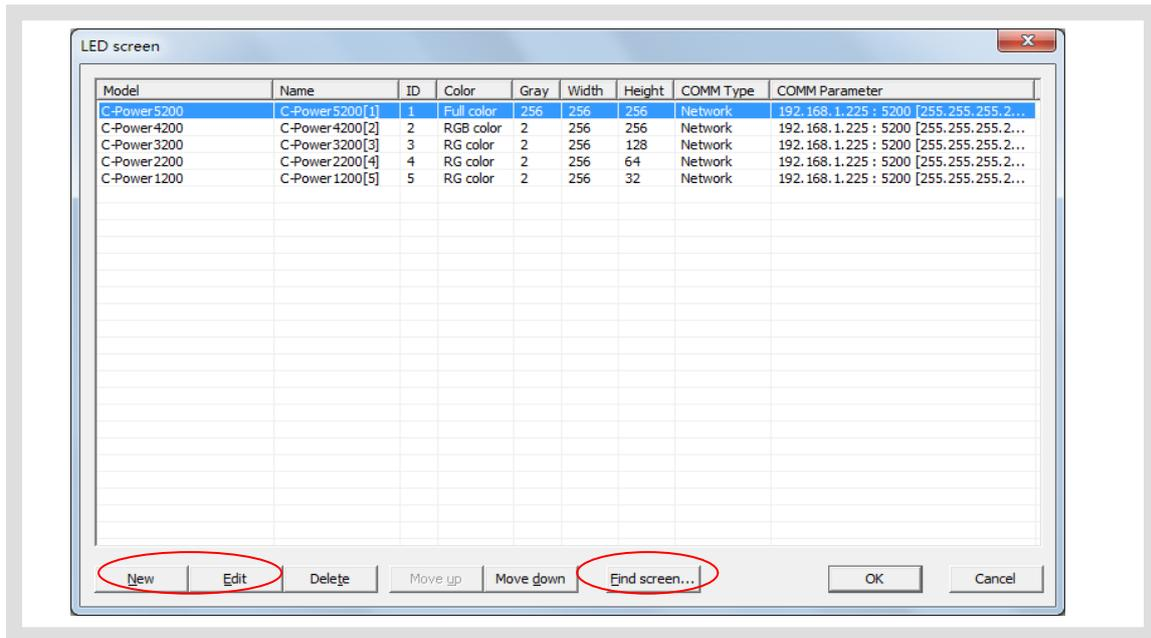

Figure3 LED screen list
- 2) In the LED screen list dialog box (Figure3), click “New” to establish or click “Edit” to change the screen parameters.